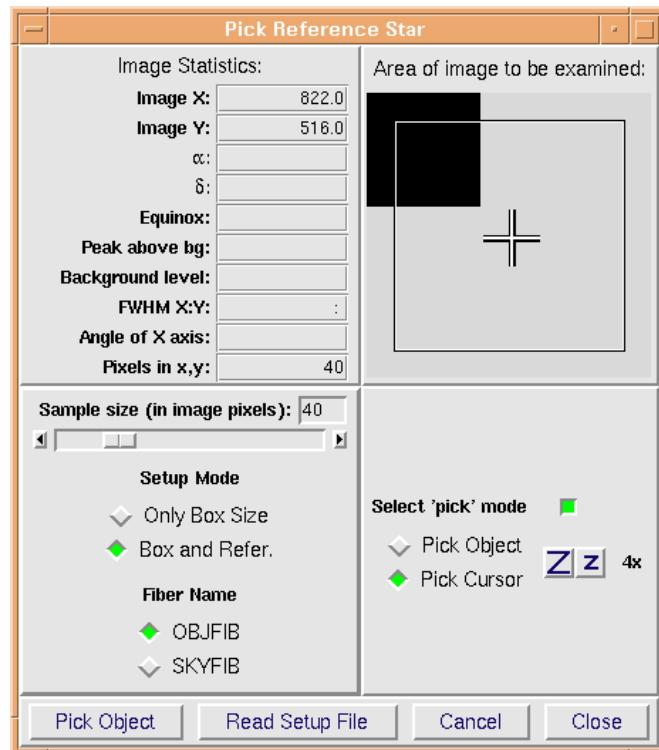

Figure 6.1: Window to set FEROS fibre reference position Pick Reference Star. Select checkbox Pick Cursor.
- Open or activate window Pick Reference Star (Fig. 6.1, p. 56).